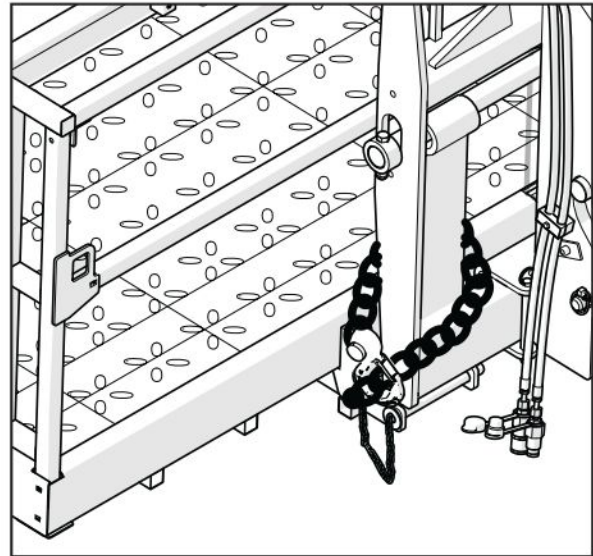

Figure 54 Safety Chain Secured
4. Secure the safety chain ④ around a strong part of the fork carriage and secure it with the locking grab hook. Ensure chains are not slack and installed as close to a straight, horizontal pull as is possible. The chain angle must not exceed 45 degrees. See figure 54.